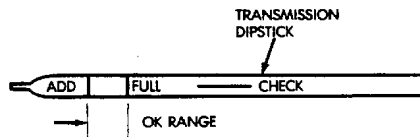

Fig. 1 Transmission Fluid Level
- (1) Be sure transmission fluid is at normal operating temperature. Normal operating temperature is reached after approximately 15 miles (25 km) of operation.
- (2) Position the vehicle on a level surface. This is important for an accurate fluid level check.
- (3) Shift the transmission through all gear ranges and back to Neutral.
- (4) Apply the parking brakes.
- (5) Verify that the transmission is in Neutral.
- (6) Wipe off the dipstick handle to prevent dirt from entering the fill tube. Then remove the dipstick and check fluid level and condition.
- (7) Correct fluid level is to the **FULL** mark on the dipstick when the fluid is at normal operating temperature (Fig. 1).
- (8) If fluid level is low, top off the level with Jeep Mercon™, transmission fluid. Mopar Dexron II™ may also be used if Mercon is not available. Do not overfill the transmission. Add only enough fluid to bring the level to the **FULL** mark.